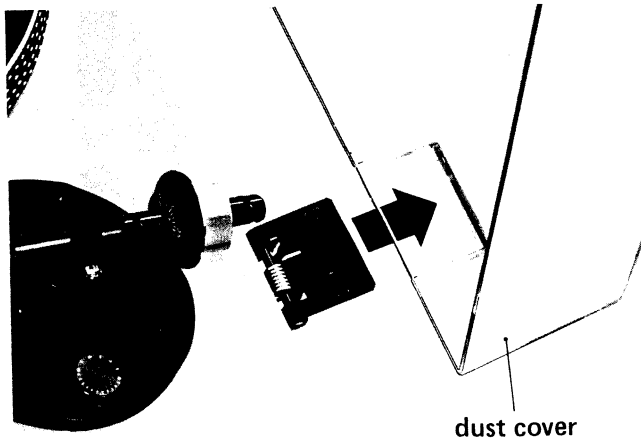

Fig. 3-1
2. Pull off the dust cover in the direction of the arrow (Fig. 3-1).